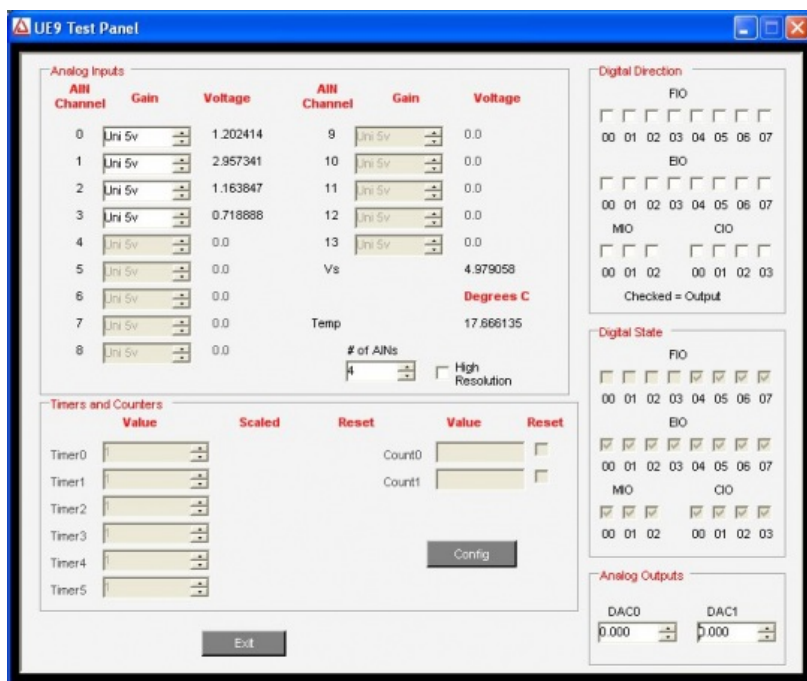

Figure 1.1-2. LJControlPanel Test Window
- Test: Opens the window shown in Figure 1.1-2. This window continuously writes to and reads from the selected LabJack. Starts with Factory Default settings.